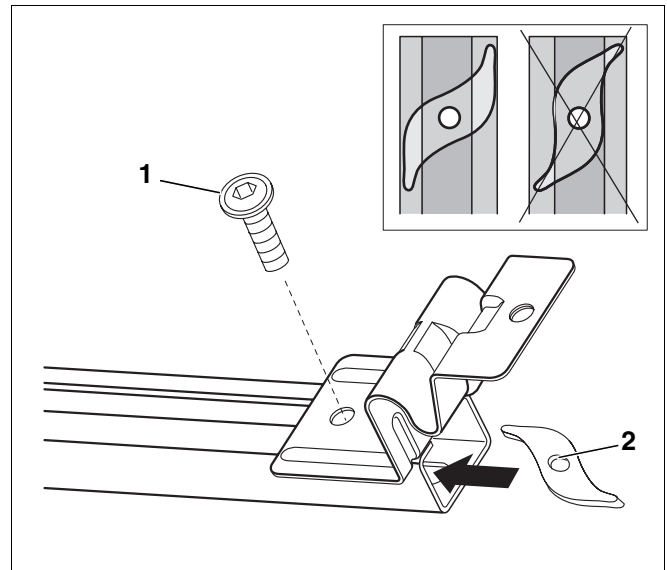

Fig. 15 Securing the collector holder flush with the profile rail
- Install the collector holder Fig. 15 so the edge of the threaded plate is flush with the end of the profile rail. The threaded plate must not protrude under any circumstances.
- Attach the collector holders with the preassembled threaded plates (self-locking, tight thread; Fig. 15, **Item 2**) and pan-head screws (Fig. 15, **Item 1**).